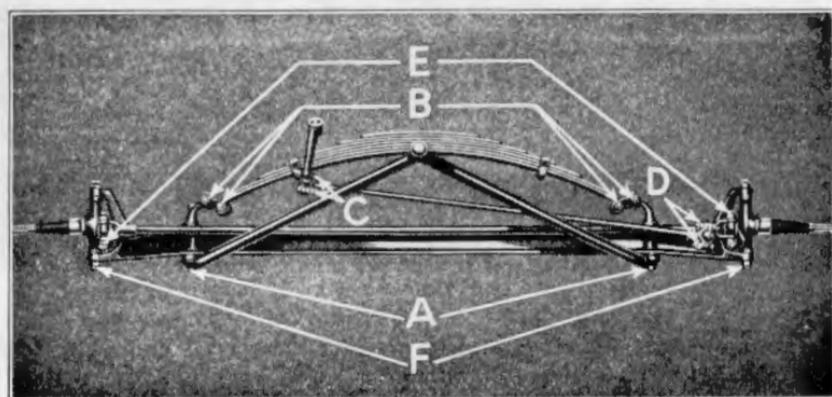

Fig. 367
- 672 Remove radius rod by running off the two spring perch nuts (See "A" Fig. 367) and withdrawing rod from ends of perches.
- 685** Assemble spring to perches by inserting the hangers through ends of spring and perches; position spring hanger bars over ends of the hangers and run down and tighten the hanger nuts, locking them with cotter keys (See "B" Fig. 367). Draw spring perch nuts down tightly and lock with cotter keys.